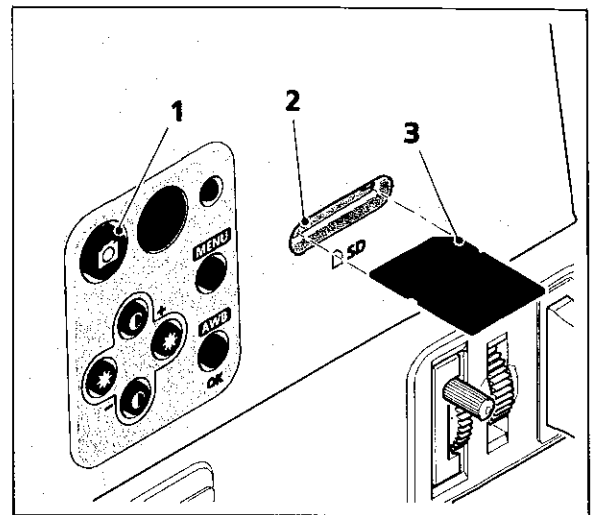

Fig. 6 Inserting SD / SDHC card
- SD / SDHC card port (Fig. 6/2) for storing image data, see section 3.3.3.1
- Insert an SD / SDHC card (Fig. 6/3) into the card slot (Fig. 6/2) of the binocular tube 30°/20.
- Briefly press the **Snap** button (Fig. 6/1) to trigger an exposure.
- Press the **Snap** button (Fig. 6/1) for longer to start a video recording. Briefly pressing the **Snap** button once again stops the video recording.